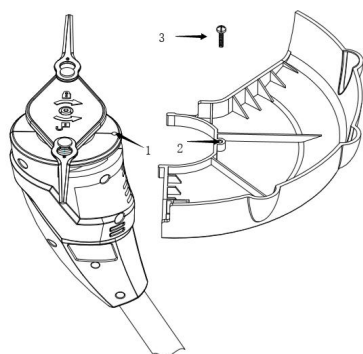

Fig.4
Align the guard with the trimmer head as shown (Fig.4), Before install the guard to the machine you need to check the two hole(item1 and item 2) is accordance, then use screw (item 3) to connect tight with the hole.